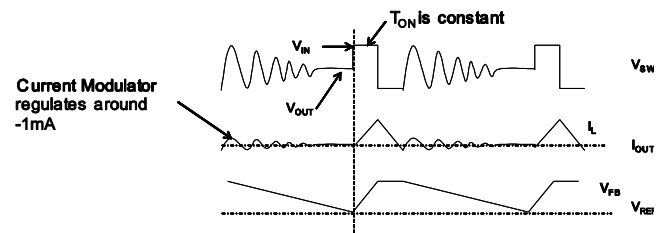

Figure 3—DCM Operation
Discontinuous conduction mode is shown in Figure 3. When  $V_{FB}$  is below  $V_{REF}$ , the HS-FET is turned on for a fixed interval, which is determined by the one-shot on-timer. See Equation (1). When the HS-FET is turned off, the LS-FET is turned on until the inductor current reaches zero. In DCM operation, the  $V_{FB}$  does not reach  $V_{REF}$  when the inductor current is approaching zero. The LS-FET driver turns into tri-state (high Z) when the inductor current reaches zero. A current modulator takes over the control of the LS-FET and limits the inductor current to less than  $-1\text{mA}$ . Hence, the output capacitors discharge slowly to GND through the LS-FET. As a result, the efficiency during a light-load condition is improved greatly. The HS-FET is not turned on as frequently during a light-load condition as it is during a heavy-load condition (skip mode).